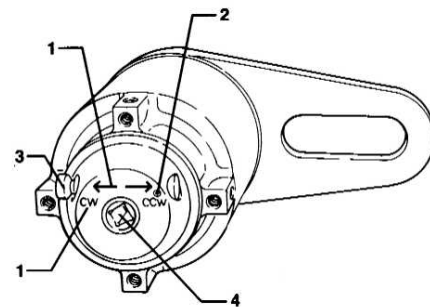

Figure 2. Input End Detail
- 6.6 Apply torque with torque wrench until desired input torque is achieved. **To remove torque multiplier from fastener:** Apply enough input torque to release internal anti-backlash device, then push selector pawl (Fig. 2, Item 3) into opposite position (EXAMPLE: If selector pawl is in the clockwise CW position for tightening, apply input torque in the CW direction to relieve force on the pawl. While maintaining input torque in the CW direction, slide pawl into the CCW direction for release) and slowly relax input torque. Never strike selector pawl to release or change directions. (See **▲ Warnings**)
- 7.1 If you decide to use a **non-impact** power drive to speed up the process of tightening or loosening fasteners, you **MUST** remember to lock the selector pawl in the neutral position. Center the selector pawl (Fig. 2, Item 3) between the CW/CCW range of the travel and tighten the setscrew (Fig. 2, Item 2). When properly positioned, the screw will be seated in a groove in the selector pawl, so the pawl cannot be moved in either direction. Take care that the power drive is set to deliver no more than the maximum allowable input torque. See Torque Multiplier Application Tips for additional power drive information.